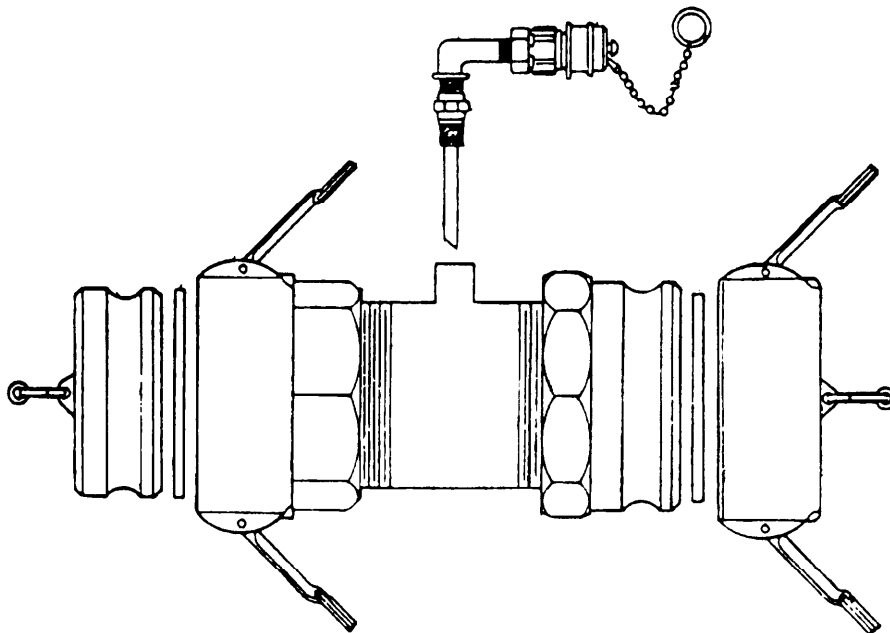

Figure 1-17. Water Detector Kit Adapter.
**1-22. WATER DETECTOR KIT ADAPTER.** (Refer to Figure 1-17.)